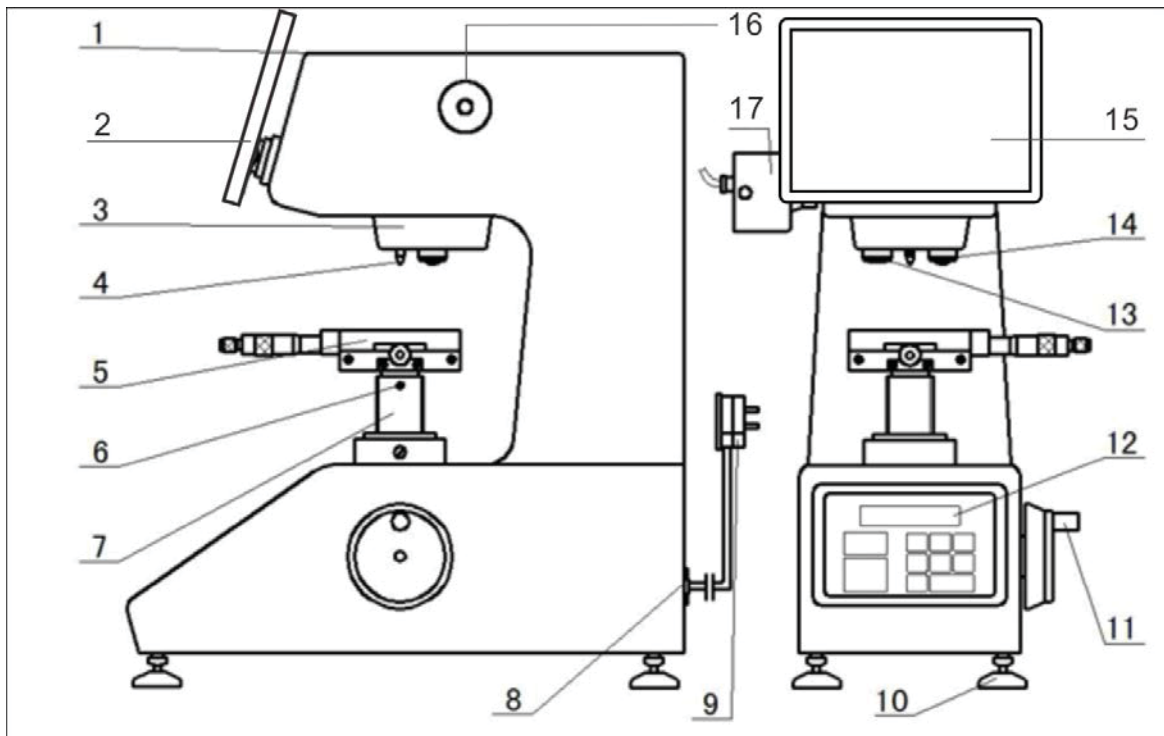

Fig 1
- 3.2.3 Take out the 4 horizontal regulating screws out of the accessories kit and screw them in the holes on the base panel of the instrument. Unpack the gauze band wrapped on the lifting screw and the hand wheel (see Fig.1).